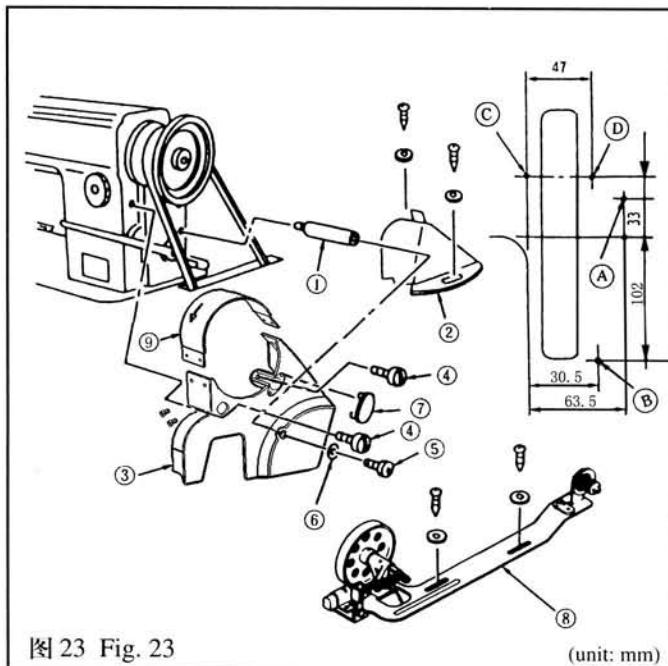
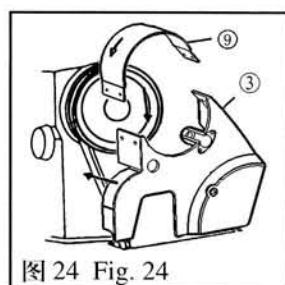
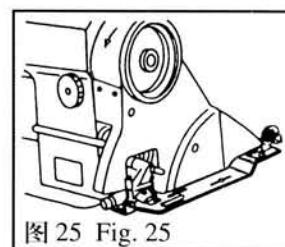

图 23 Fig. 23
图 24 Fig. 24
图 25 Fig. 25
- 1 缝制厚料时，应将右线钩①朝左方向 A 移动，以增大挑线量。
- 2 缝制薄料时，应将右线钩①朝右方向 B 移动，以减小挑线量。
- 3 右线钩①中心与螺钉中心一致时为标准位置。
- 1) When sewing heavy-weight materials, move thread guide ① to the left in direction A to increase the length of thread pulled out by the thread take-up.
- 2) When sewing light-weight materials, move thread guide ① to the right in direction B to decrease the length of thread pulled out by the thread take-up.
- 3) When the center of the thread guide ① is aligned with the center of the screw, it is standard.
17. 皮带罩绕线器的装法(图 23、图 24、图 25)
17. INSTALLING THE BELT COVER AND THE BOBBIN WINDERS (Fig.23, Fig.24, Fig.25)